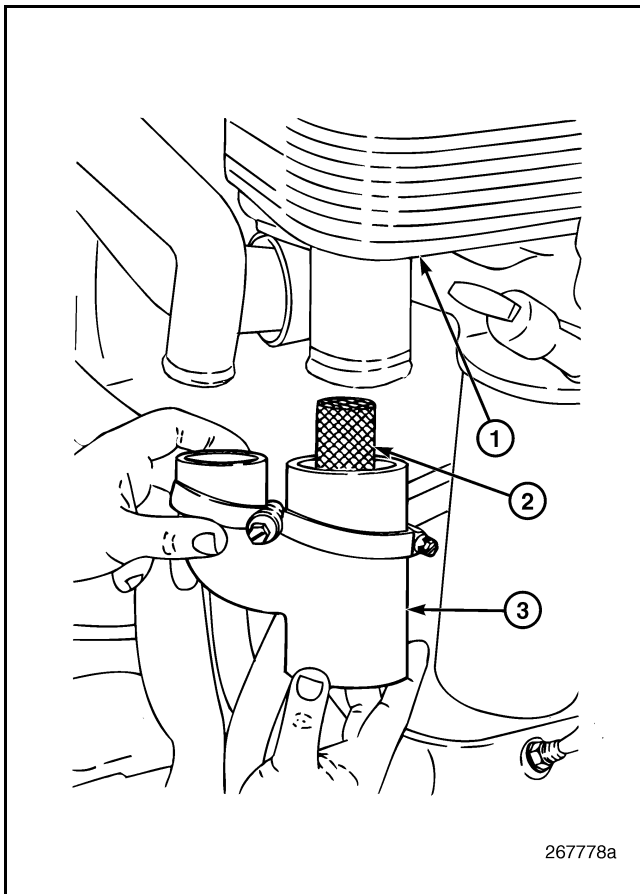

Figure 468 — Y-Hose, Coolant Screen and Oil Cooler Inlet
- Loosen the clamp securing the Y-hose to the oil cooler inlet port and remove the hose and filter screen (Figure 468).